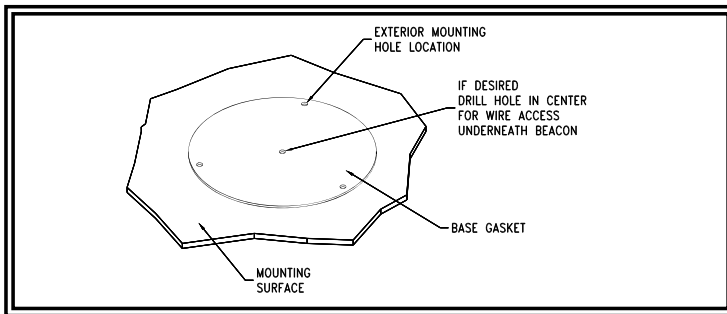

Figure 1
2. Using the base as a template, mark the three mounting hole locations (see Figure 1).
4. A fourth hole may be drilled for wire access as shown in Figure 1, or route through a grommet or the wires may be routed through the slot in the base for external access.